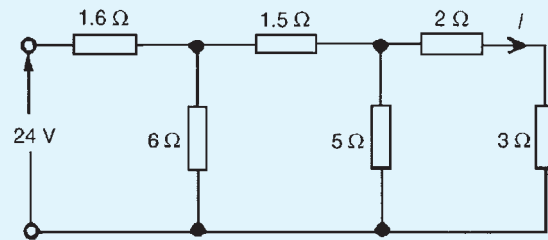

Figure 5.34
10. Find the current I in Fig. 5.34. [1.8 A]